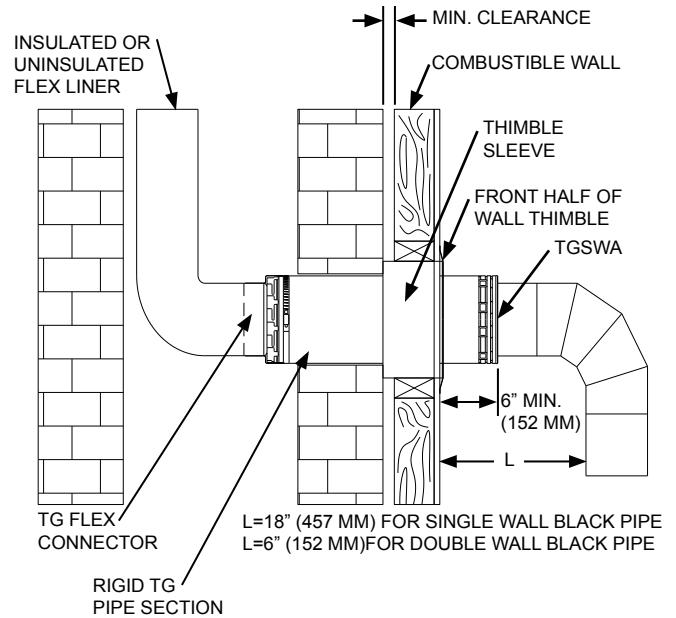

FIG. 13
Step 1: Solid-fuel appliances will require the use of TG Flex Connector, TG Wall thimble and a rigid section of TG Pipe (See FIG 13). For insulated flex liners, insulation must also cover the TG Flex Connector.
Step 4: Insert TG Flex Connector into rigid TG pipe (**be sure flow arrow is pointed in correct direction**). Secure connector to pipe by tightening hose clamp. The rigid TG pipe must extend out past the combustable wall a minimum of 6 inches (152 mm) as shown in FIG 13.
NOTES: Finish connection to appliance making sure to keep minimum clearance "L" inches (mm) as shown in FIG. 13.